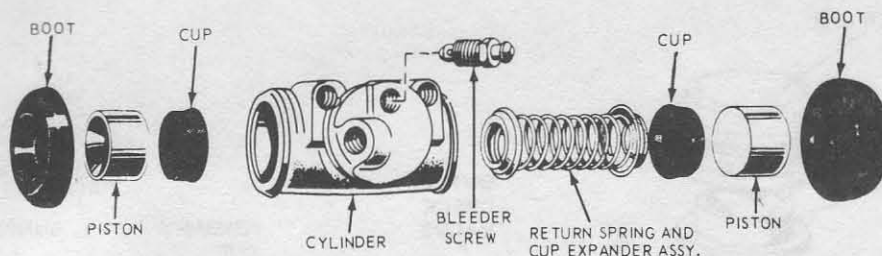

Fig. 9.13 Drum brake wheel cylinder components (Sec. 13)
- 2 To dismantle the wheel cylinder, first remove the rubber boot from each end of the cylinder and push out the two pistons, cup seals and return spring (see Fig. 9.13).